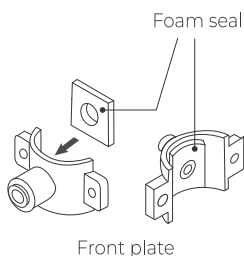

Figure 8
b. Choose a spot on the drainpipe that is convenient for installing the drain saddle (Figure 8). Drill a 1/4" hole in the drainpipe. Be sure not to penetrate the opposite side of the pipe.